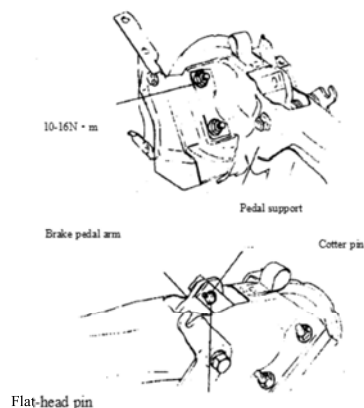

Fig.3.7-23
- (3) Install the vacuum booster to the pedal support as indicated in Fig.3.7-23. And then install the vacuum booster adjusting fork to the brake pedal fork arm by using pin and cotter pin.
- (4) Screw the vacuum booster to the specified torque.